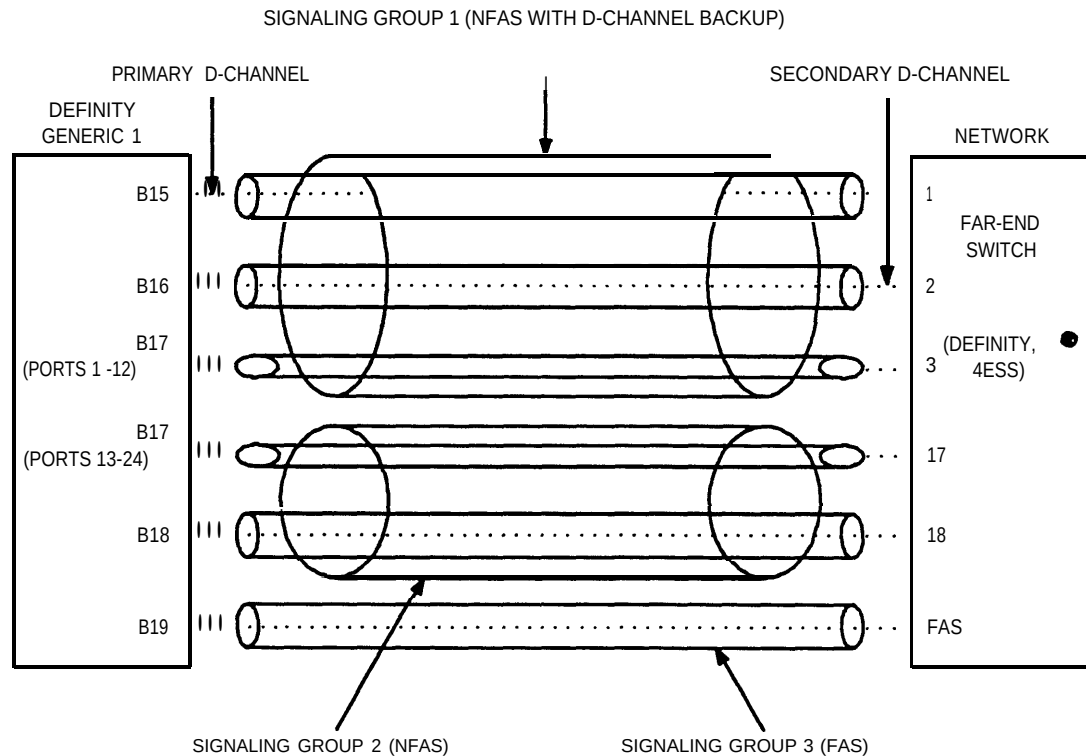

Figure 3-23. Example FAS/NFAS Interface Configurations With Interface IDs
- There is no restriction on which DS1 ports can belong to a NFAS Signaling Group. Normally, an NFAS Signaling Group would consist of one or two D-channels and several complete DS1 interfaces as shown in Figure 3-23.
The following examples describe the DS1 interface configuration shown in Figure 3-23 for NFAS. The examples make use of key forms associated with implementation of the ISDN-PRI feature described elsewhere in this chapter in addition to the use of the Signaling Group form. Refer to the "ISDN-PRI" coverage for additional information associated with implementing ISDN-PRI. When implementing FAS and NFAS, the DS1 form must be submitted first, followed by the Interface Link and associated forms followed by the ISDN-PRI trunk group form.